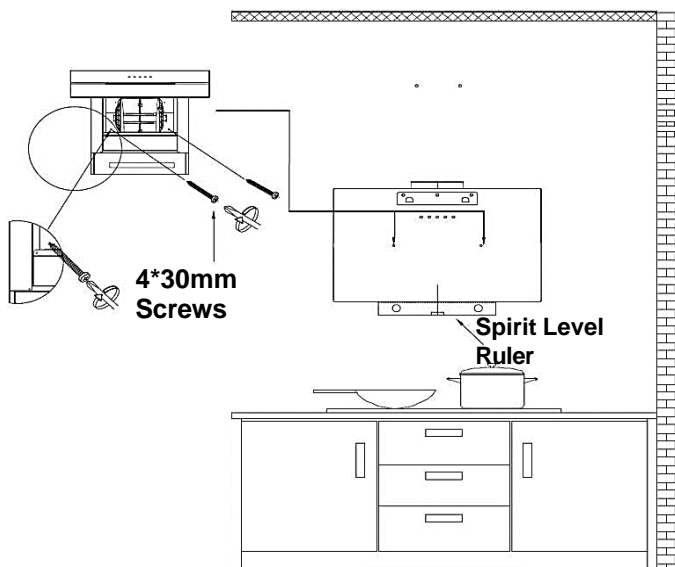

Fig. 9
8. Use a Spirit Level Ruler to measure whether the hood is in a horizontal level, and use two 4*30 mm Screws to lock into the safety hole position of the hood (not mandatory, according to user's wishes to choose whether to lock). (see Fig. 9)